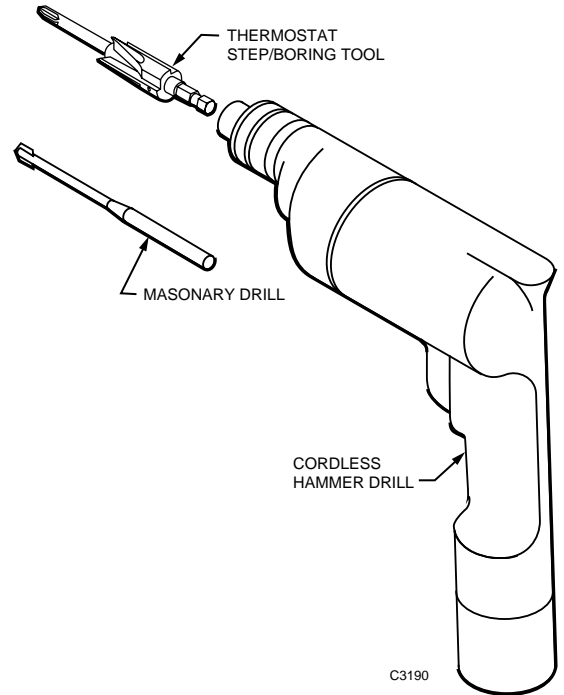

Fig. 45. Masonry Drill, Thermostat Step/Boring Tool, and Cordless Hammer Drill.
- Cordless Hammer Drill CCT712 (MQG773) (Fig. 45)
- Masonry Drill CCT773 (MQG773) (Fig. 45)
- Thermostat Step/Boring Tool CCT691 (Fig. 45)